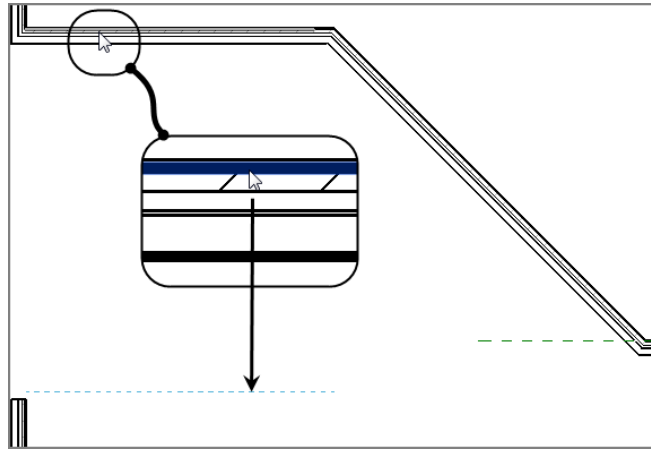

FIGURE 2.12: Adding a wall using the built-in offset function may take a few tries to get the method down.
31. Move your cursor over the outside face of the wall, as shown in Figure 2.12. When you see the alignment line appear below the wall, pick the outside face.